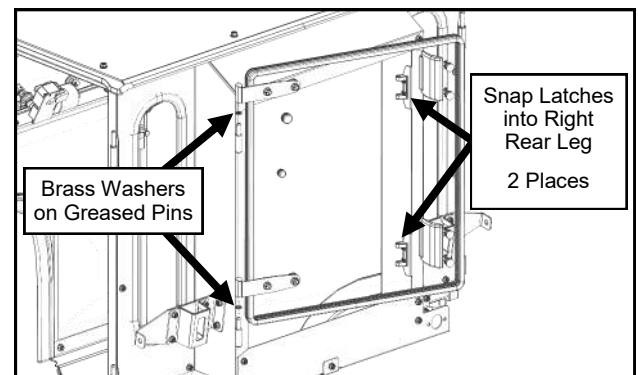

Fig. 16.2 (Hang Rear Window)
- 16.2** Grease the hinge pins for the rear window, and slide on greased brass washers (one washer per pin). See Figure 16.2.